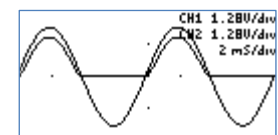

Figure 67: Removing the capacitor
- 6) If the capacitor is removed, the display should look like figure 67.